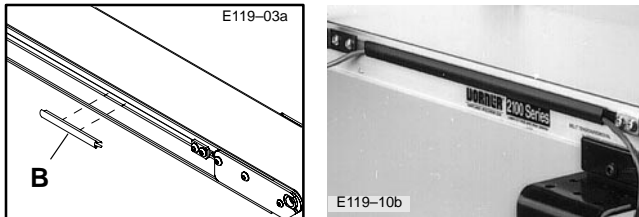

Figure 3: T-slot Cover Strip Mounting Detail
- c. To contain a long run of wiring cable in the conveyor T-slot channel, use several short lengths of T-slot Cover Strips (B) (Figure 3). Or, to completely contain a long run of cable, purchase T-slot Cover Strip (645656P) at length required.